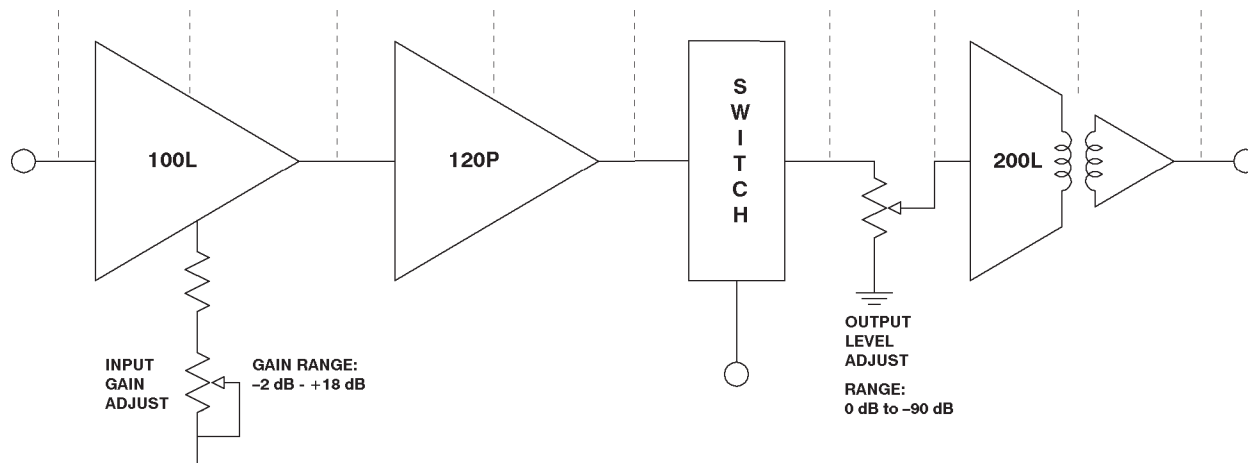

Figure 2 - Gain Setup Example 1
1. Locate a proper slot in the mainframe. Mainframe slots are set up on the rear panel of the mother board according to the card type to be used. Slots are dedicated by installing the proper trimpots. Trimpots **MUST** be installed as indicated in Figure 2 and 3 for inputs and outputs to function. Microphone level inputs require 200 Ω trimpots. All others require 10 k Ω trimpots. Slots labels are applied at the factory above each slot position. Single input cards such as the 5101PS, 5101PS-8, and the 5151PS are labeled 'SPECIAL', as are any specially made cards. With the exception of the SPECIALs, cards may be inserted in any slot with a matching label.